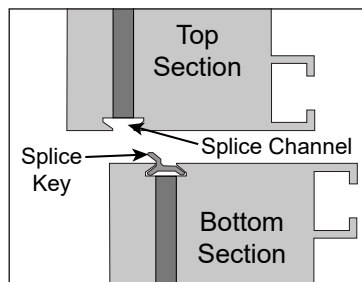
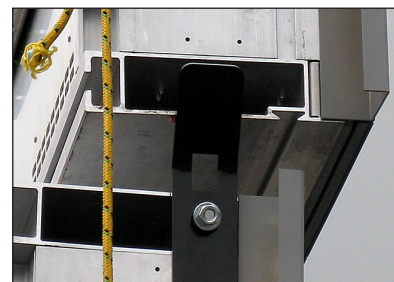

Figure 10: Installed Splice Key
Figure 11: Alignment Bracket
1. Ensure the splice key is in the splice channel and the alignment brackets are installed as shown on the bottom display section. Refer to **Figure 10** and **Figure 11**.